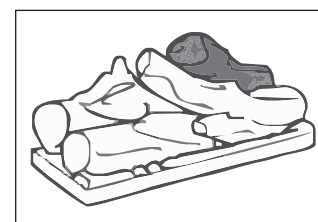

FIG 25
- d) Place log #4 on single right back pin, ensure left side of log rests on depression in #3 log. Refer **FIG 25**.